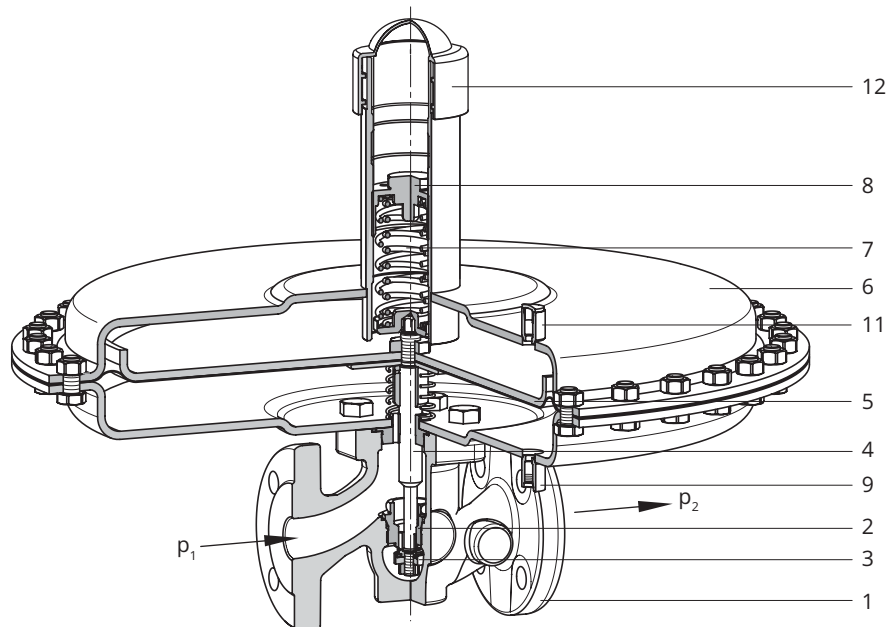

Fig. 3: Type 2405 Pressure Reducing Valve without pressure balancing · K_{VS} 1.6 to 4 · Flow-to-open
– Pressure reducing valve with proportional control action (see Fig. 3)